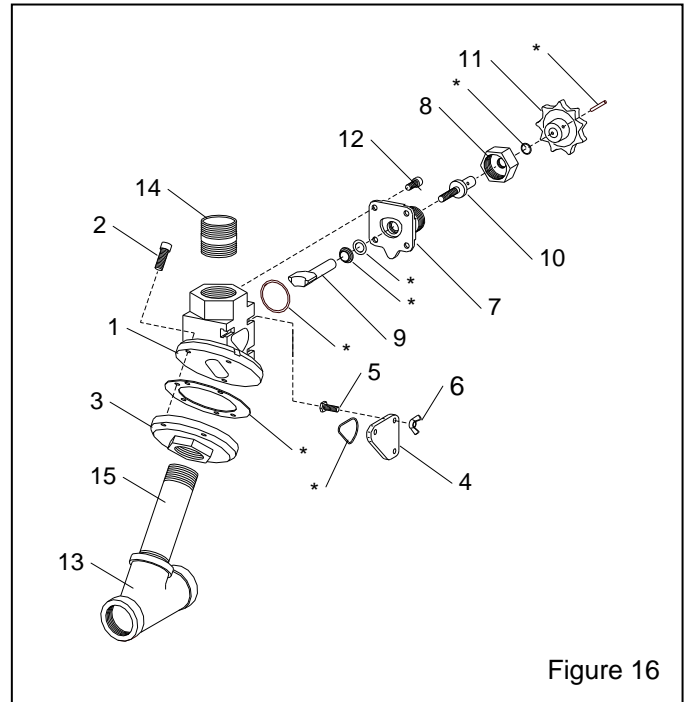

Figure 16
**8.4 Quantum Manual Abrasive Metering Valve, Figure 16**